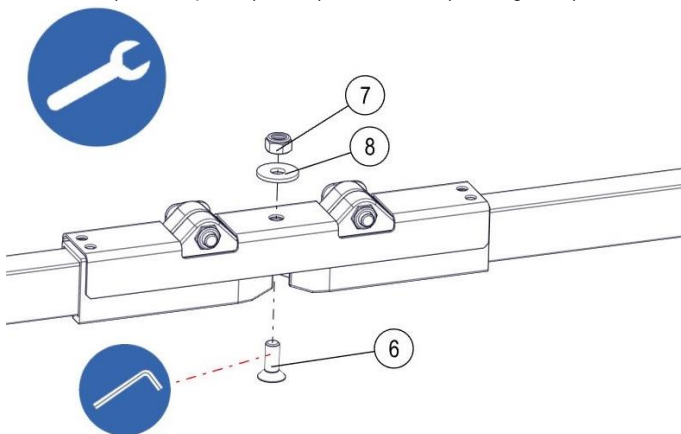

Fig. 101: Mount the cover
- Tighten the countersunk screw DIN 7991 M6x16-A2 (Pos. 6) with a hexagon screwdriver SW5 and washer DIN 9021-A6,4-A2 (Pos. 8) as well as the hexagon nut DIN 985-M6-A4 (Pos. 7) using an SW10 open-end wrench so that the cover (Pos. 3) on the plate (Pos. 2) is mounted (see Fig. 101).